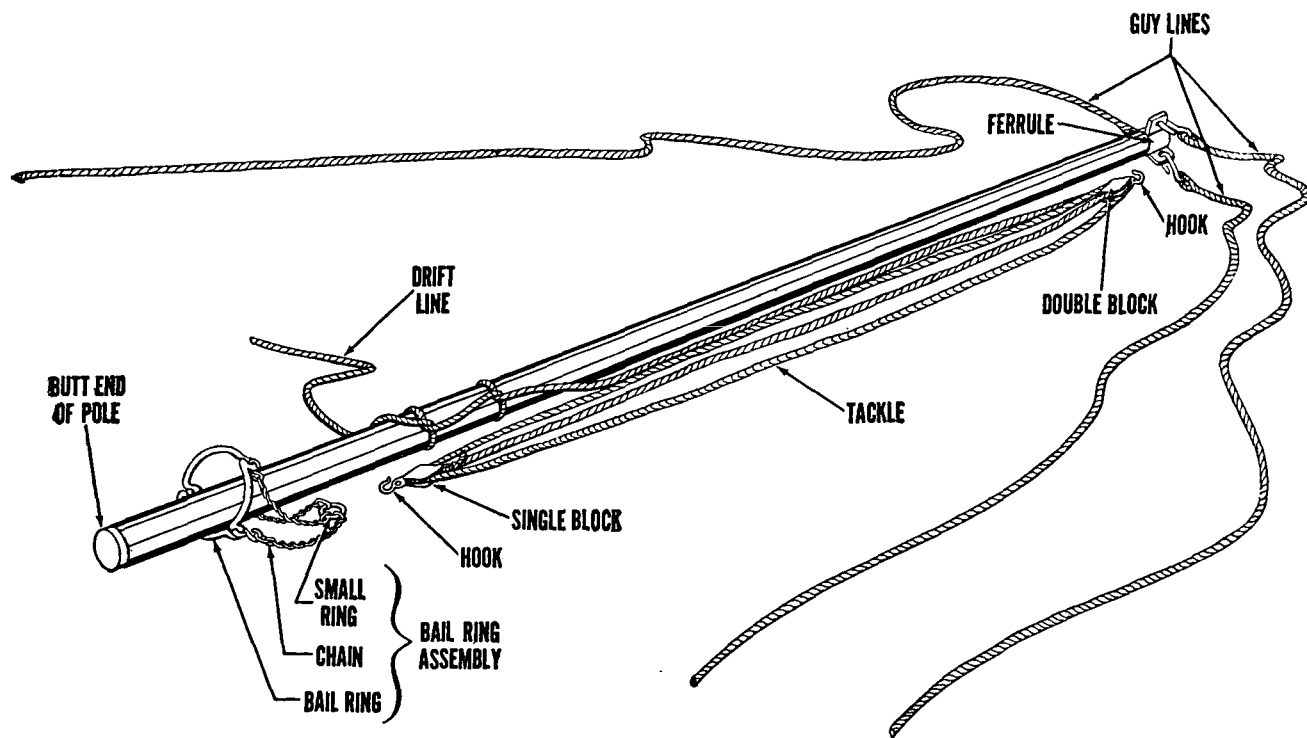

Figure 9. Preparing center pole for erection of tent, assembly, M-1942.
(3) *Preparing center poles for erection (3, fig 8 and fig 9).*